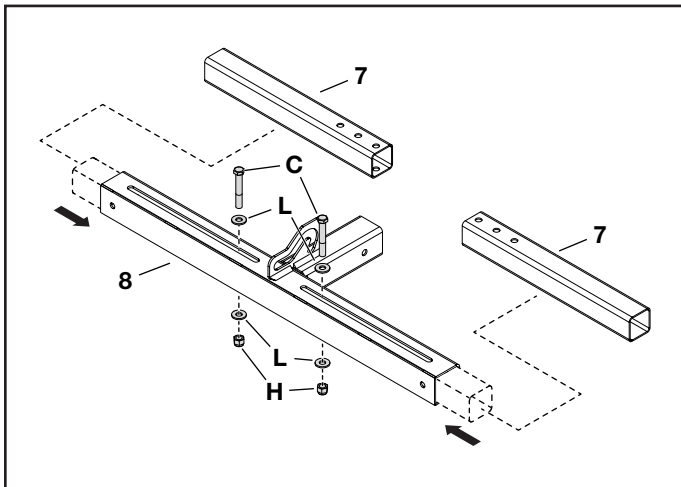

FIGURE 1
STEP 1: (SEE FIGURE 1)
- Insert a slider tube (7) into each end of the hitch mount assembly (8).
- Attach the slider tube to the hitch mount assembly using two hex bolts (C), four washers (L), and two Nylock hex nuts (H). Do not tighten.